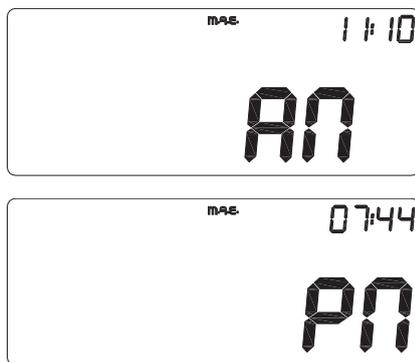

Fig. 13
*In this case, during adjustment, AM will appear on digits 10 and 11 or PM will appear on digits 11 and 12 as shown in figure 13.*